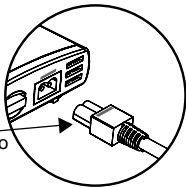

Figure 2 Connecting the Adapter and DC Cable
1. Attach the cigarette lighter plug adapter to the DC cable. See Figure 2 on page 11.
2. Plug the DC cable into the DC cable port on the XPower inverter. Observe correct polarity. See Figure 2.
1. Plug the DC cable into the DC cable port on the XPower inverter. Observe correct polarity. See Figure 2.